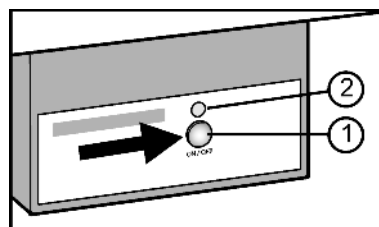

Fig. 4
- ▶ Press On/Off button *Fig. 4 (1)* so that the LED *Fig. 4 (2)* lights up.